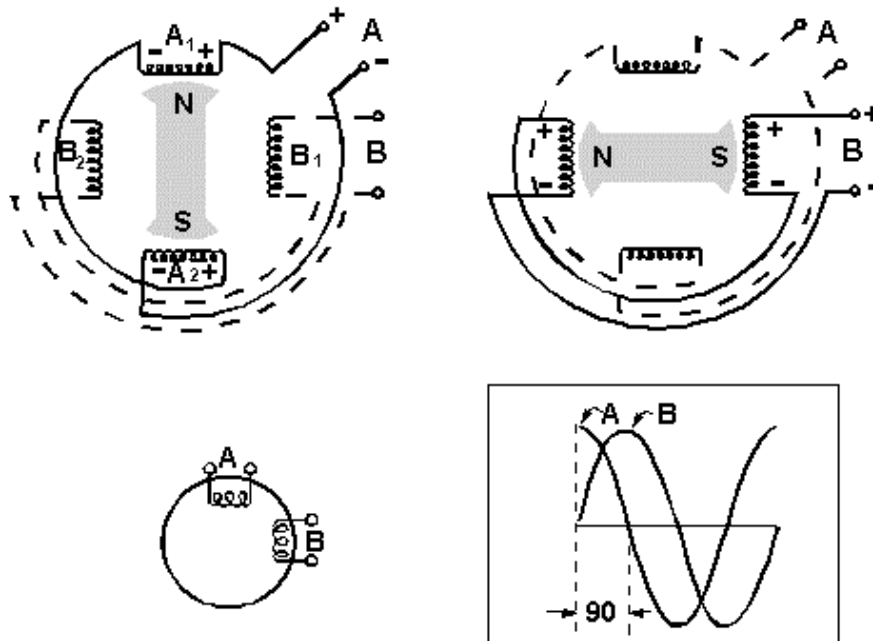
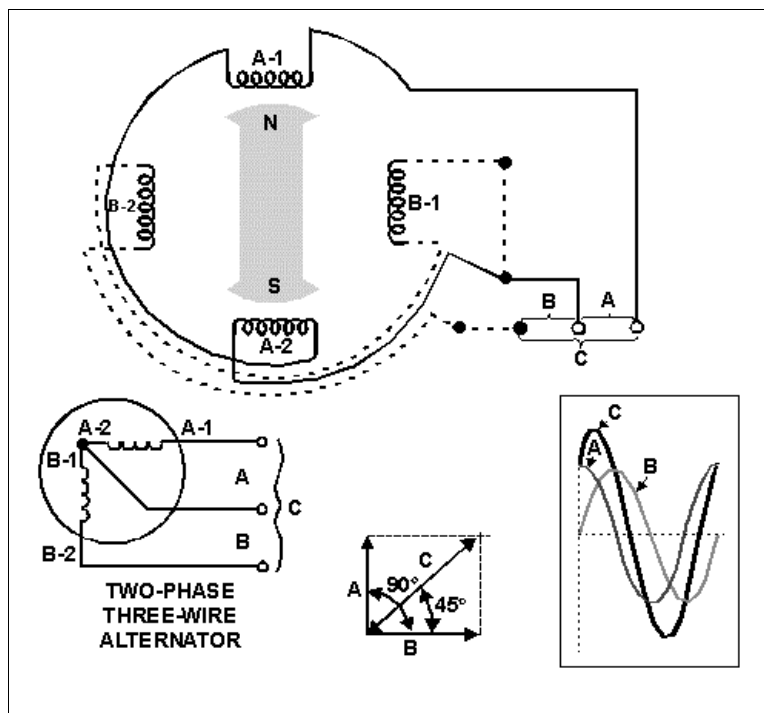

Figure 3-6.—Two-phase alternator.
Figure 3-7.—Connections of a two-phase, three-wire alternator output.
Figure 3-6 shows a simplified two-pole, two-phase alternator. Note that the windings of the two phases are physically at right angles ( $90^\circ$ ) to each other. You would expect the outputs of each phase to be  $90^\circ$  apart, which they are. The graph shows the two phases to be  $90^\circ$  apart, with A leading B. Note that by using our original definition of phase (from previous modules), we could say that A and B are  $90^\circ$  out of phase. There will always be  $90^\circ$  between the phases of a two-phase alternator. This is by design.
The stator in figure 3-6 consists of two single-phase windings completely separated from each other. Each winding is made up of two windings that are connected in series so that their voltages add. The rotor is identical to that used in the single-phase alternator. In the left-hand schematic, the rotor poles are opposite all the windings of phase A. Therefore, the voltage induced in phase A is maximum, and the voltage induced in phase B is zero. As the rotor continues rotating counterclockwise, it moves away from the A windings and approaches the B windings. As a result, the voltage induced in phase A decreases from its maximum value, and the voltage induced in phase B increases from zero. In the right-hand schematic, the rotor poles are opposite the windings of phase B. Now the voltage induced in phase B is maximum, whereas the voltage induced in phase A has dropped to zero. Notice that a 90-degree rotation of the rotor corresponds to one-quarter of a cycle, or 90 electrical degrees. The waveform picture shows the voltages induced in phase A and B for one cycle. The two voltages are 90° out of phase. Notice that the two outputs, A and B, are independent of each other. Each output is a single-phase voltage, just as if the other did not exist.
The large schematic in figure 3-7 shows four separate wires brought out from the A and B stator windings. This is the same as in figure 3-6. Notice, however, that the dotted wire now connects one end of B1 to one end of A2. The effect of making this connection is to provide a new output voltage. This sine-wave voltage, C in the picture, is larger than either A or B. It is the result of adding the instantaneous values of phase A and phase B. For this reason it appears exactly half way between A and B. Therefore, C must lag A by 45° and lead B by 45°, as shown in the small vector diagram.
Now, look at the smaller schematic diagram in figure 3-7. Only three connections have been brought out from the stator. Electrically, this is the same as the large diagram above it. Instead of being connected at the output terminals, the B1-A2 connection was made internally when the stator was wired. A two-phase alternator connected in this manner is called a two-phase, three-wire alternator.
*Q13. What is the relationship of the voltage at C in figure 3-7 to the voltages at A and B?*